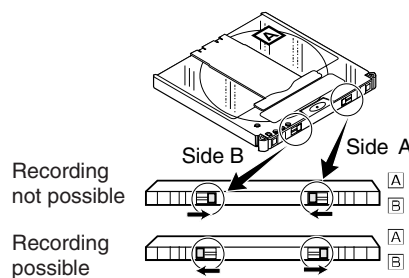

Fig. 6-1f
- 2) The write-protect tabs are placed in the positions shown in Fig. 6-1f.